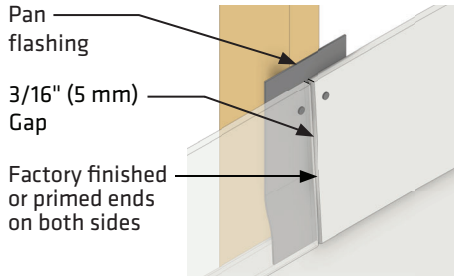

Figure 4d
3. **If open butt joint (no caulking or moulding) for factory finished siding is selected**, a minimum 4" wide pan flashing is required, factory finished ends must be maintained on both sides of butt joint. (Figure 4d and 6c)
4. **If open butt joint (no caulking or moulding) for primed siding is selected**, a minimum 4" wide pan flashing is required, factory primed ends must be maintained on both sides of butt joint, in addition the factory primed ends must be coated with an additional layer of high-quality water based primer per coating manufacturers requirements prior to installation of siding. (Figure 4d and 6c)